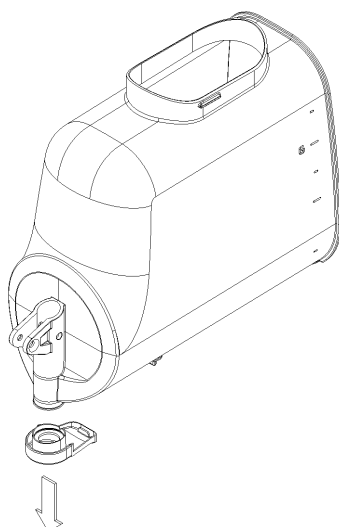

figure 15
- 7 Remove the flow restrictor from the container (see figure 15).
- 5** Remove the flow restrictor from the container (see figure 15).